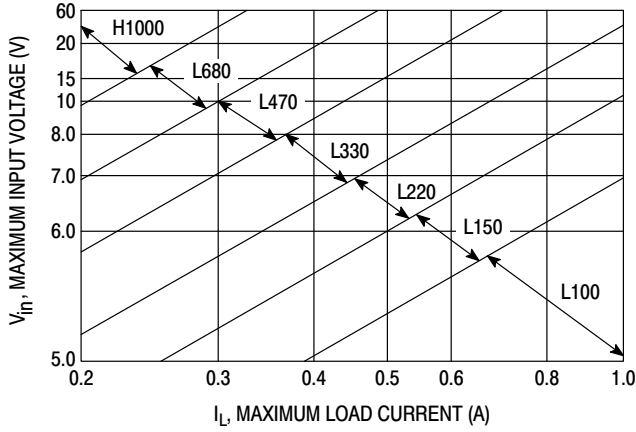

Figure 17. LM2575-3.3
4. Inductor Selection (L1) A. According to the required working conditions, select the correct inductor value using the selection guide from Figures 17 to 21. B. From the appropriate inductor selection guide, identify the inductance region intersected by the Maximum Input Voltage line and the Maximum Load Current line. Each region is identified by an inductance value and an inductor code. C. Select an appropriate inductor from the several different manufacturers part numbers listed in Table 1 or Table 2. When using Table 2 for selecting the right inductor the designer must realize that the inductor current rating must be higher than the maximum peak current flowing through the inductor. This maximum peak current can be calculated as follows: $I_{p(max)} = I_{Load(max)} + \frac{(V_{in} - V_{out}) t_{on}}{2L}$ where t_{on} is the “on” time of the power switch and $t_{on} = \frac{V_{out}}{V_{in}} \times \frac{1}{f_{osc}}$ For additional information about the inductor, see the inductor section in the “External Components” section of this data sheet.	4. Inductor Selection (L1) A. Use the inductor selection guide shown in Figures 17 to 21. B. From the selection guide, the inductance area intersected by the 20 V line and 0.8 A line is L330. C. Inductor value required is 330 μ H. From the Table 1 or Table 2, choose an inductor from any of the listed manufacturers.
To simplify the inductor selection process, an inductor selection guide for the LM2575 regulator was added to this data sheet (Figures 17 through 21). This guide assumes that the regulator is operating in the continuous mode, and selects an inductor that will allow a peak-to-peak inductor ripple current to be a certain percentage of the maximum design load current. This percentage is allowed to change as different design load currents are selected. For light loads (less than approximately 200 mA) it may be desirable to operate the regulator in the discontinuous mode, because the inductor value and size can be kept relatively low. Consequently, the percentage of inductor peak-to-peak current increases. This discontinuous mode of operation is perfectly acceptable for this type of switching converter. Any buck regulator will be forced to enter discontinuous mode if the load current is light enough.